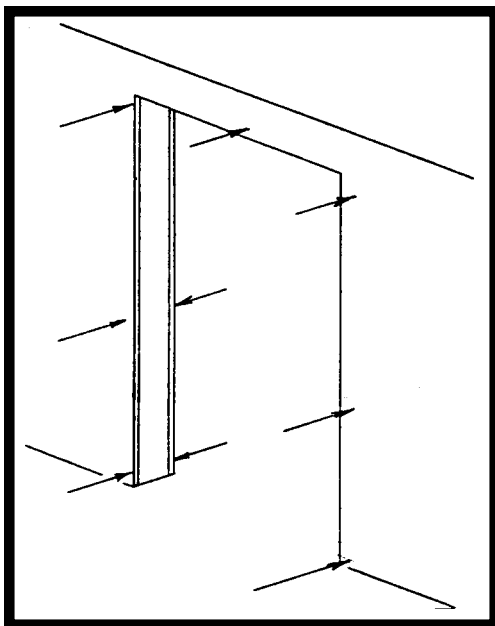

Figure 3
- A) The first is a uniform gap along the entire length (height) of the frame jambs. The frame should be removed from the opening and the wall thickness checked at numerous places around the opening. Refer to figure 3. These measurements should be compared to the Job Specifications. If the wall thickness is undersize, several options are available.